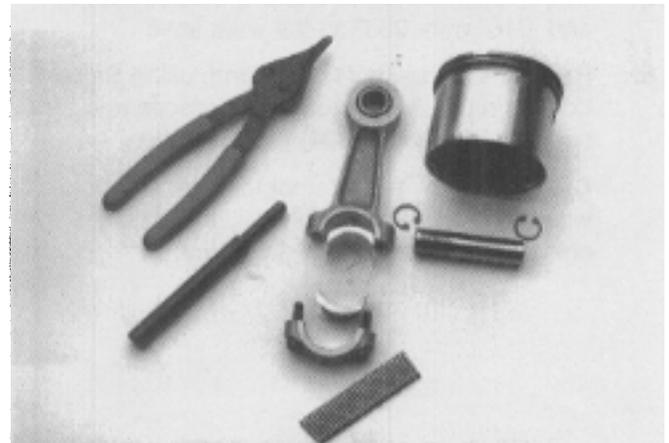

Figure 71
4. Remove the piston and rod assembly; separate the assembly if necessary, using a compression pliers (p/n 303857) on the retaining ring (16). Use wrist pin knock out tool (p/n 602884) to punch out wrist pin (17). (**Figure 71**).